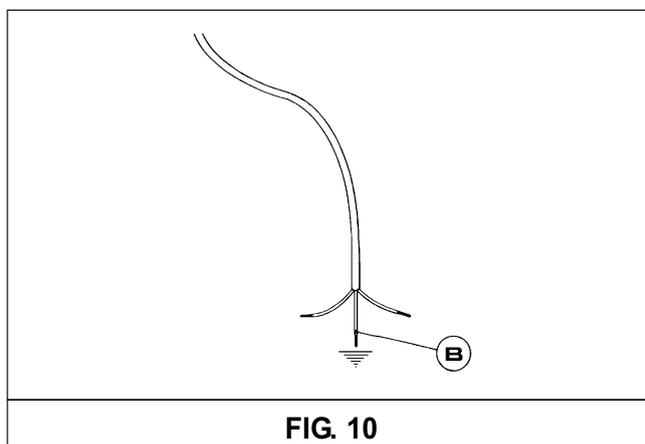

FIG. 10
*If the power supply cable is replaced, the installer should leave the ground wire longer than the phase conductors (fig. 10) and comply with the recommendations given in paragraph 8.*